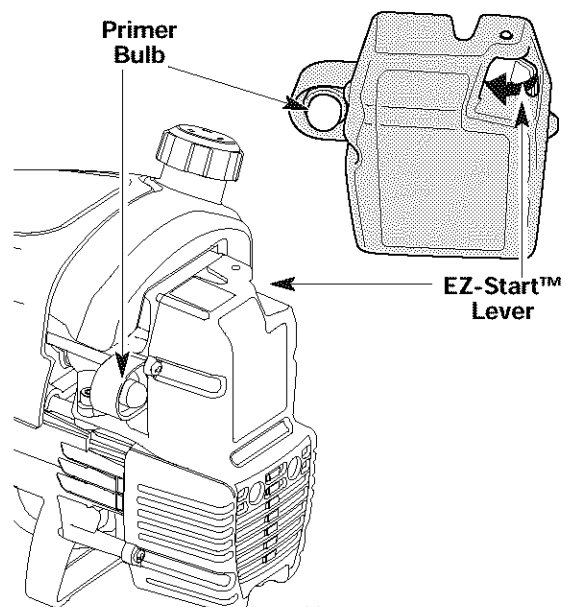

Fig. 7
3. Fully press and release the primer bulb 10 times, slowly, until **FUEL IS VISIBLE IN THE PRIMER BULB** (Fig. 7). If you can't see fuel in the bulb, press and release the bulb as many times as it takes before you can see fuel in it.
4. Push the EZ-Start™ Lever to the left until it clicks and locks into place (Fig. 7).
6. When the engine starts, squeeze the throttle control to warm up the engine for 5 to 10 seconds. The EZ-Start™ Lever will click off automatically (Fig. 7).